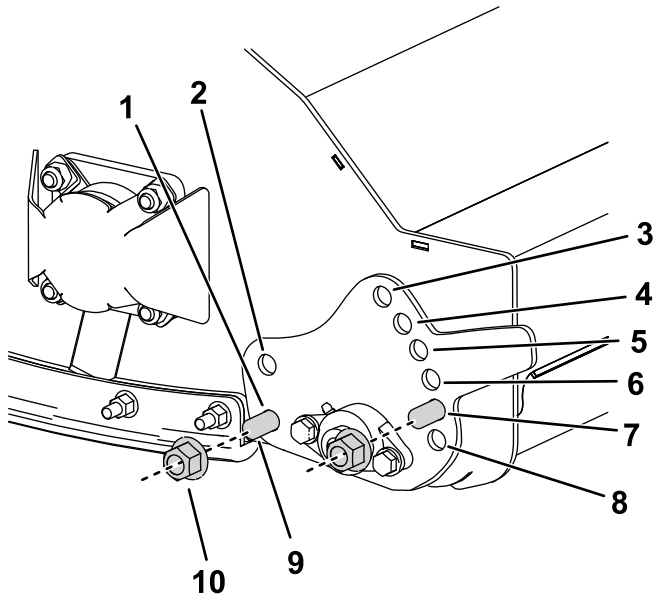

Figure 20
3. To adjust the position of the height-of-cut adjuster plate, remove the nuts and bolts securing the plate (Figure 20).